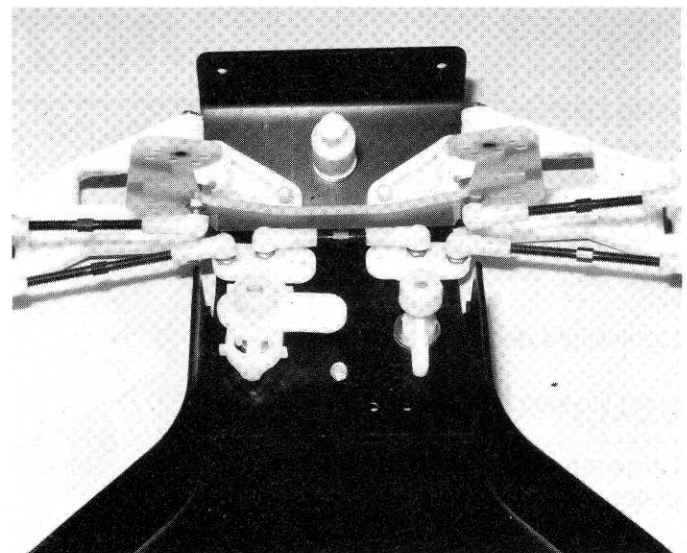

Fig. 25
- ☐ **Fig. 25** Place the servo saver onto the 2 screws, as shown. Take the 2 nylon nuts and screw them down until the servo saver starts to tighten, then back the nuts off about 1/2 turn until the servo saver arms pivot freely.